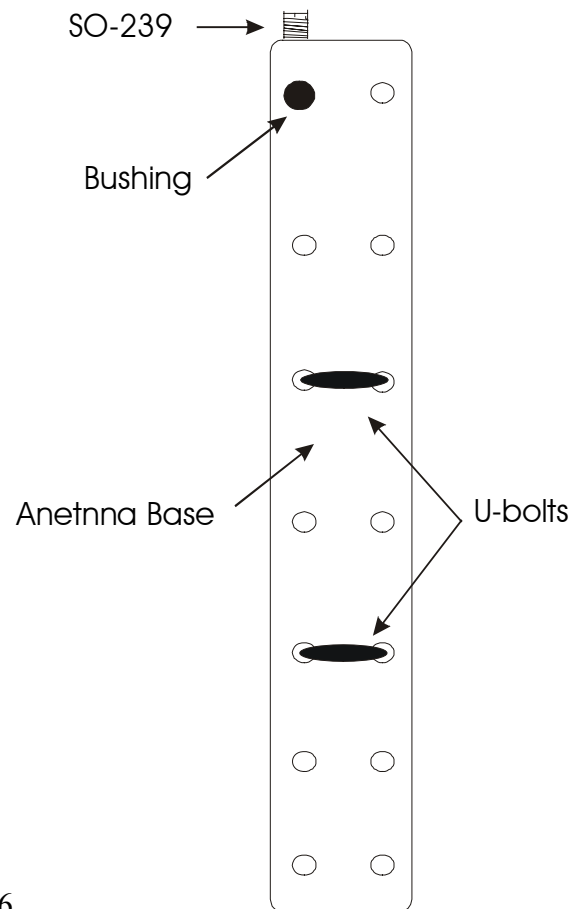

Figure 6
- [ ] 2. The SO-239 connector, supplied with the base, should then be installed on the top of the base plate mount as indicated in Figure 6 using two 6/32" x 3/8" screws and kep nuts supplied with the base. One of the feed-points at the bottom of the base may also be used. The insulated wire supplied with the MFJ-1904 will be long enough for this application. This will increase the radiating length of the antenna.